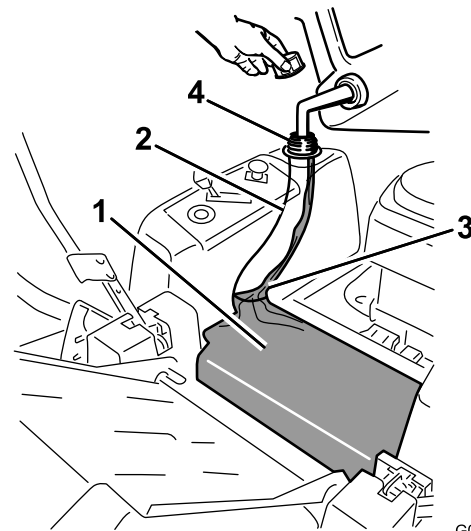

Figure 14
3. Add unleaded regular petrol until the body of the tank is full leaving the neck of the tank (Figure 14). The space in the neck of the tank allows petrol to expand. Do not fill the fuel tank completely full.